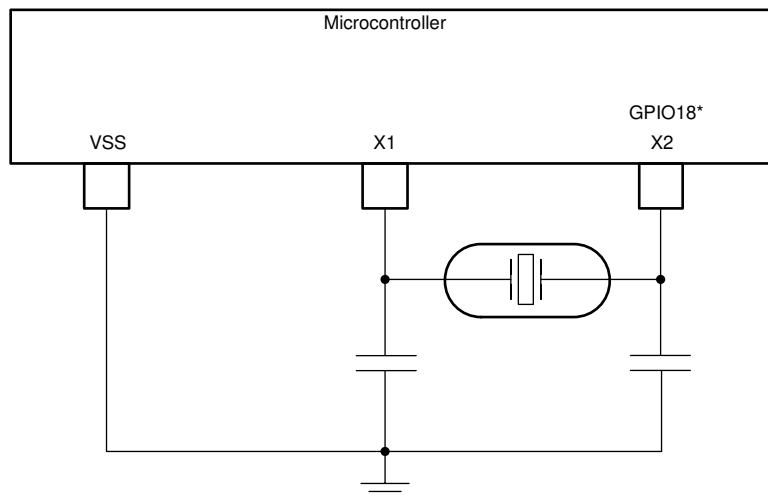

图 7-13. External Crystal
- An external crystal. The crystal should be connected across X1 and X2 with its load capacitors connected to VSS as shown in 图 7-13.